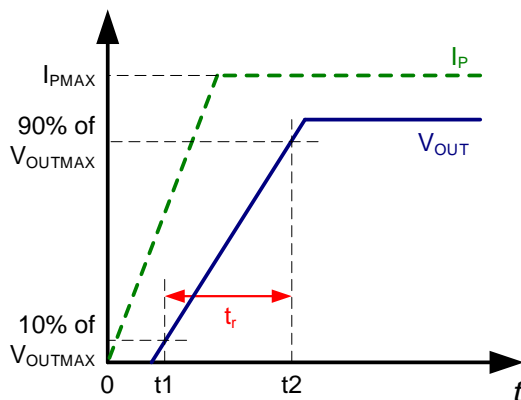

Figure 6: Rising Time (t_R)
2. t_2 : The sensor's V_{OUT} reaches 90% of its rated value (see Figure 6).